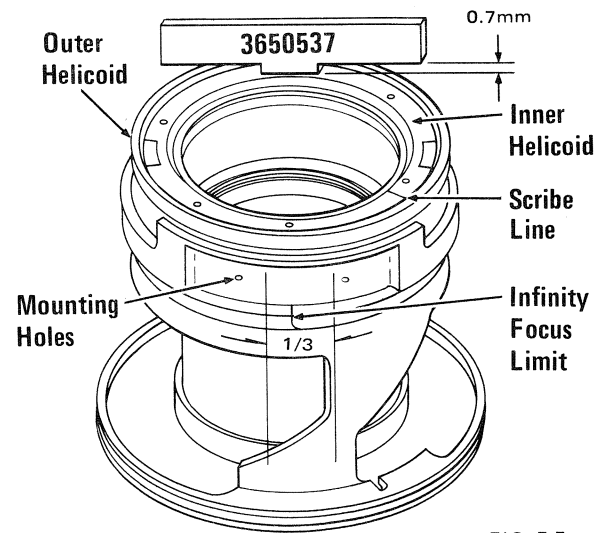

FIG. 5-5
- h) Check for correct mesh of the helicoids by placing Tool No. 3650537 across the edge of the outer helicoid as shown in Fig. 5-5. Move the inner helicoid to contact the .7mm (.028") tip of the tool. With the helicoids set to this position, the infinity end of the infinity stop cutout should fall within the middle one-third of the distance between the infinity stop plate mounting holes.